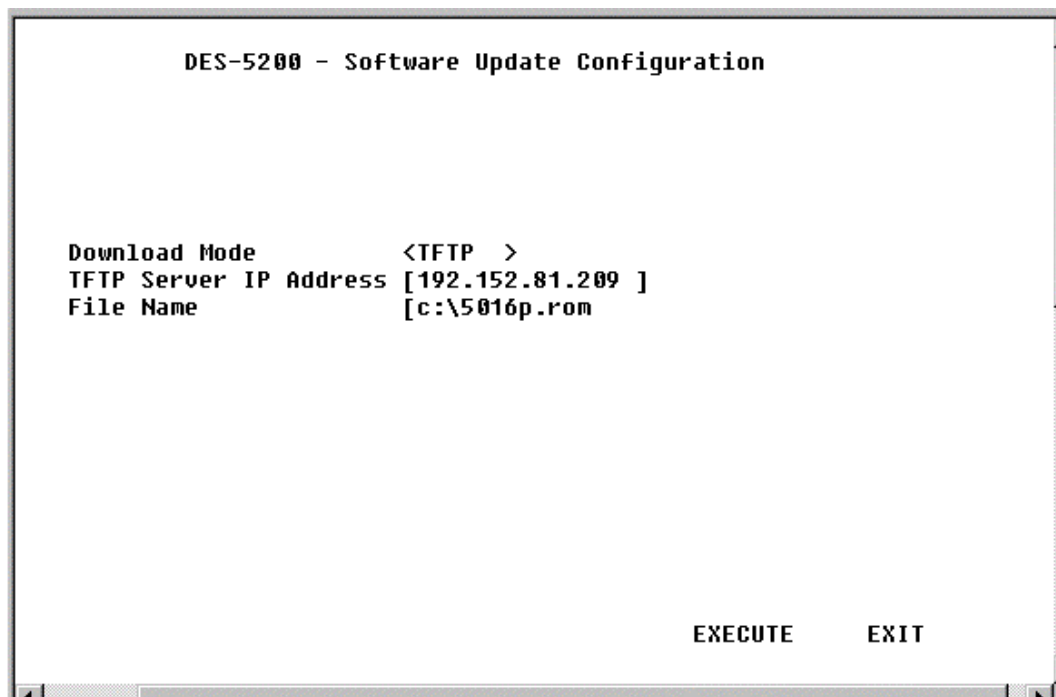

Figure 32: TFTP Transfer
2. Enter the Internet Protocol (IP) address of the TFTP server.
3. Enter the complete path and filename of the software and select Execute, Figure 32.